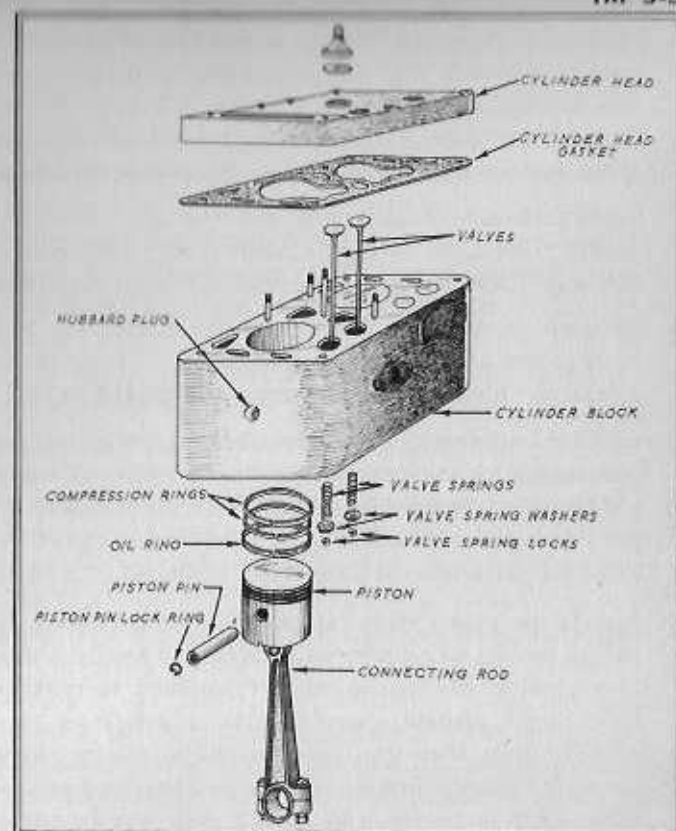

FIG. 27 PISTON, CYLINDERS, AND VALVES
- l. Remove the remaining cylinder head nuts and remove the cylinder head from the cylinder block. Do not pry the head loose with a screwdriver or other tool. If it sticks, tap it sharply on the side with a hammer to loosen it. See Fig. 27.